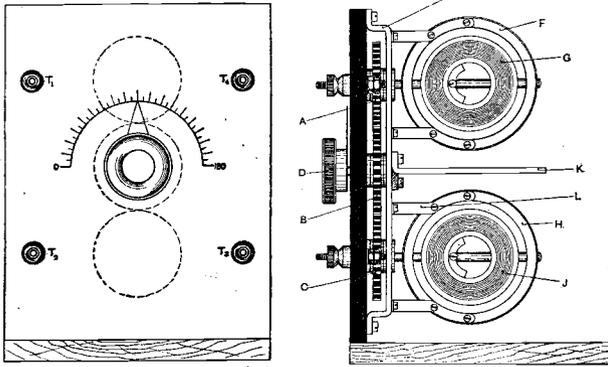

Fig. 19. Two variometers, operated through gearing by a single knob.
(I) When it is possible to provide the same value of capacity in two tuned circuits, the tuning is made easier by using an arrangement such as that of Fig. 19. Here the variometers F and H are fixed to the bracket E. A gear-wheel is fastened to both